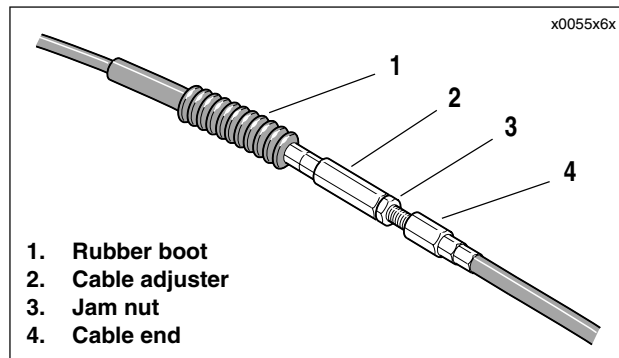

Figure 2-95. Clutch Cable Adjuster Mechanism
8. See Figure 2-95. Slide clutch cable adjuster boot (1) up to access clutch adjuster (2).
9. Loosen clutch adjuster (2) to release tension from hand lever and clutch release mechanism.